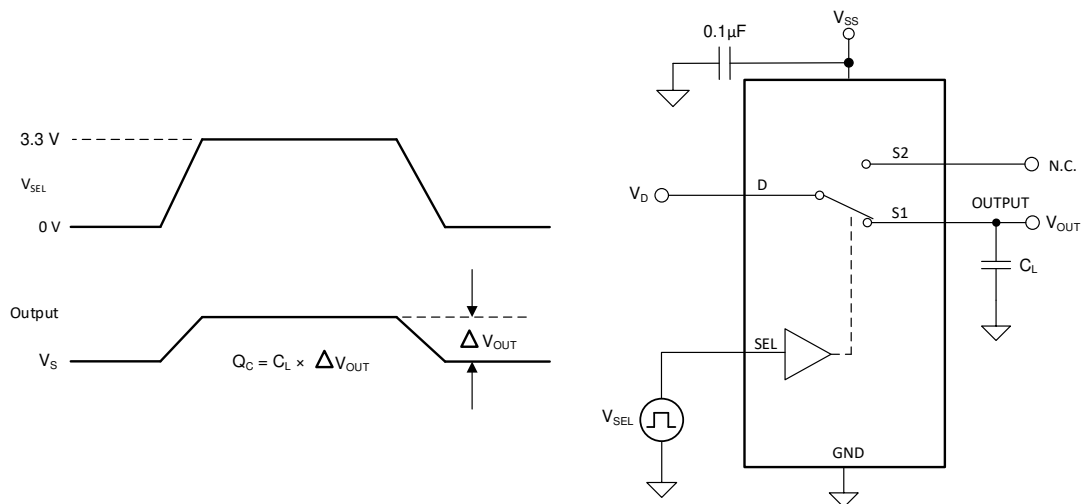

图 7-8. Charge-Injection Measurement Setup
The TMUX4157N has a transmission-gate topology. Any mismatch in capacitance between the NMOS and PMOS transistors results in a charge injected into the drain or source during the falling or rising edge of the gate signal. The amount of charge injected into the source or drain of the device is known as charge injection, and is denoted by the symbol Q_C . 图 7-8 shows the setup used to measure charge injection from Drain (D) to Source (S_x).